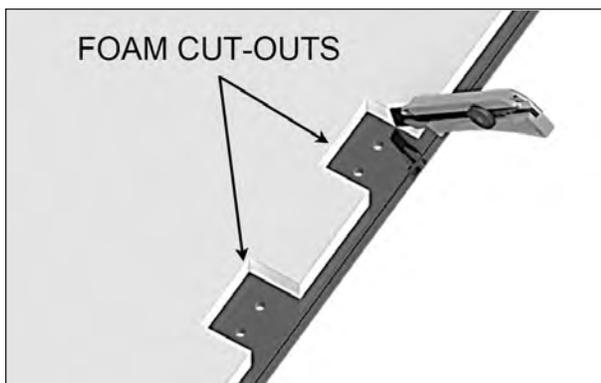

FIGURE 88: FOAM CUTTING
- Cut the foam around the hole areas behind the removed panels with a utility knife as shown in Figure 88 to ensure that the standoffs will not interfere with the foam on the panels.